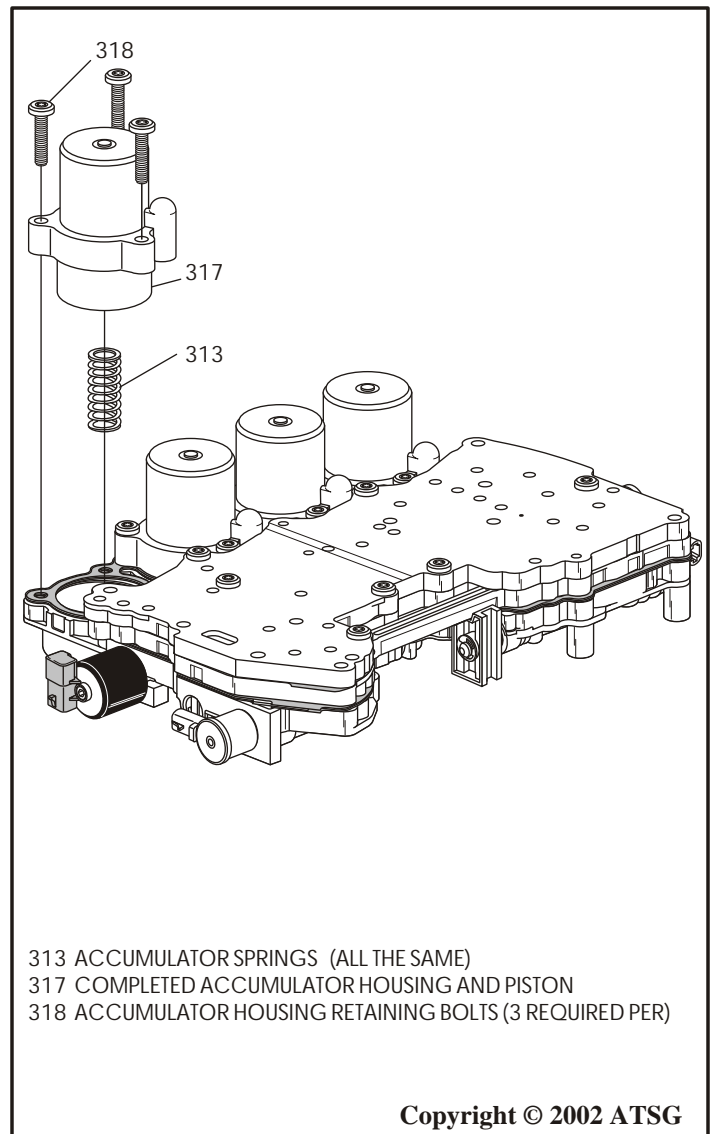

Figure 172
33. Install all completed accumulator assemblies onto the valve body assembly, using three bolts per accumulator, as shown in Figure 172.